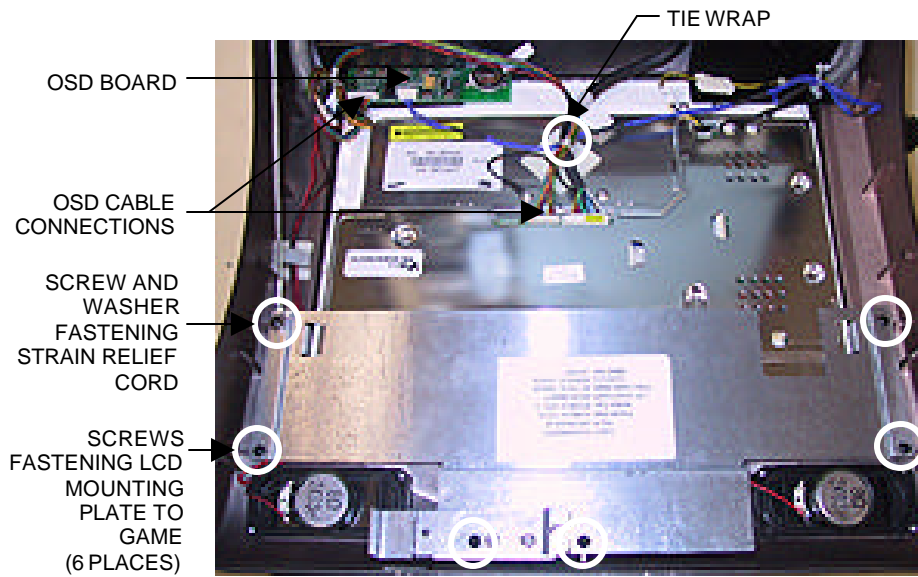
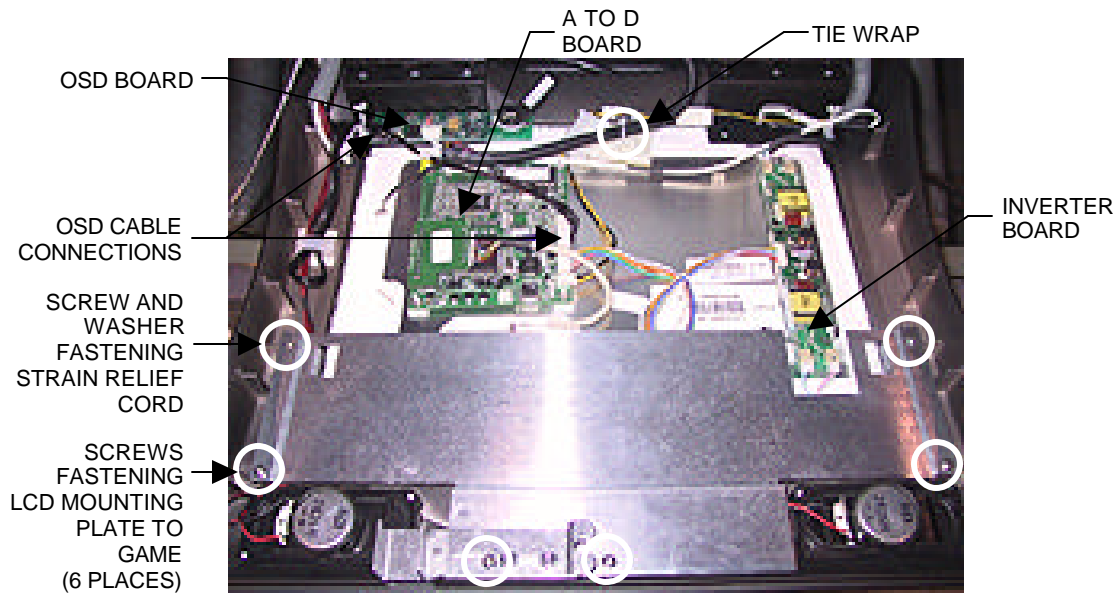

FIGURE 1 - CLOSEUP OF LCD MONITOR WITH INTERIOR CIRCUIT BOARDS
FIGURE 2 - CLOSEUP OF LCD MONITOR WITH EXTERIOR CIRCUIT BOARDS
3. Remove the screw and washer fastening the strain relief cord, then remove the remaining 5 screws fastening the LCD mounting bracket to the game and remove the bracket. Refer to Figure 1 for monitors with interior circuit boards and Figure 2 for monitors with exterior circuit boards. The bracket will not be reused.
4. Carefully cut the tie wrap around the VGA monitor cable, the OSD cable, and the setup/calibrate harness. See Figures 1 and 2.
6. Remove the OSD cable from the twist clamp and disconnect it from the OSD board. Then remove the OSD board from the velcro attached to the hinge and set it aside. See Figures 1 and 2.
Monitors with exterior circuit boards: Carefully slide the new monitor into the bezel with the A to D board on the left and the inverter board on the right (if you are facing the game--see Figure 2). Make sure the monitor is properly centered, then tighten the hinge screws.
4. Install the supplied LCD mounting bracket and fasten it to the game with the 6 screws. One screw (and washer) will fasten the strain relief cord. See Figures 1 and 2.
9. Reattach the OSD board to the velcro on the hinge, then connect the new OSD cable to both the OSD board and the monitor. Secure the cable in the twist clamp. See Figures 1 and 2.
11. Tie wrap the VGA monitor cable, the OSD cable, and the setup/calibrate harness. See Figures 1 and 2.